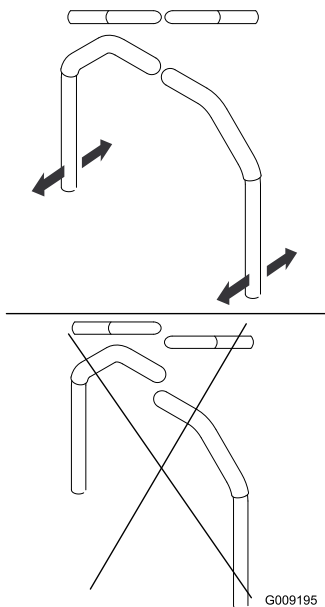

Figure 66
4. Align the levers in the front-to-rear position by bringing the levers together to the NEUTRAL position, and slide them until they are aligned, then tighten the bolts (Figure 66).